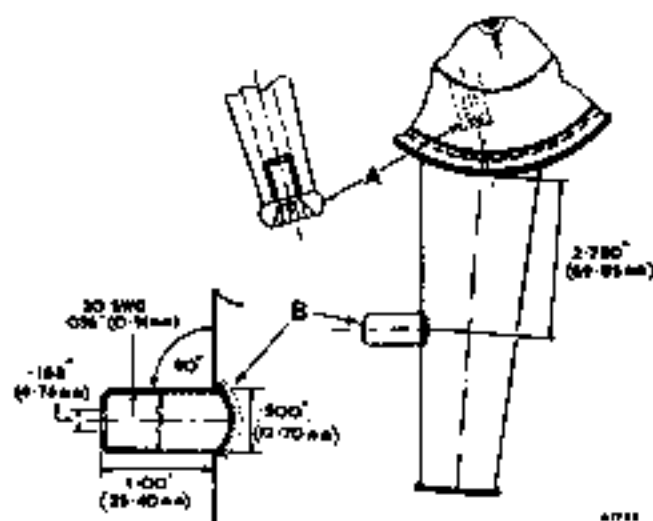

Fig. BBB.3
Remove the pipe between the rocker cover and the air cleaner elbow, and plug connection (A) with a screw (Fig. BBB.3). A suitable screw is PMZ 0406  $\frac{1}{2}$  in.  $\times$   $\frac{1}{4}$  in. UNF, pan head.
Drill a  $\frac{3}{16}$  in. (13.49 mm.) dia. hole in the air cleaner intake at the position (B) (Fig. BBB.3), make a restricted inlet nozzle of 20 S.W.G. (9-10 mm.) material to the dimensions shown, and silver-solder into the hole. Cut off the original rubber breather pipe to the requisite length and refit it between the rocker cover and the nozzle (B).